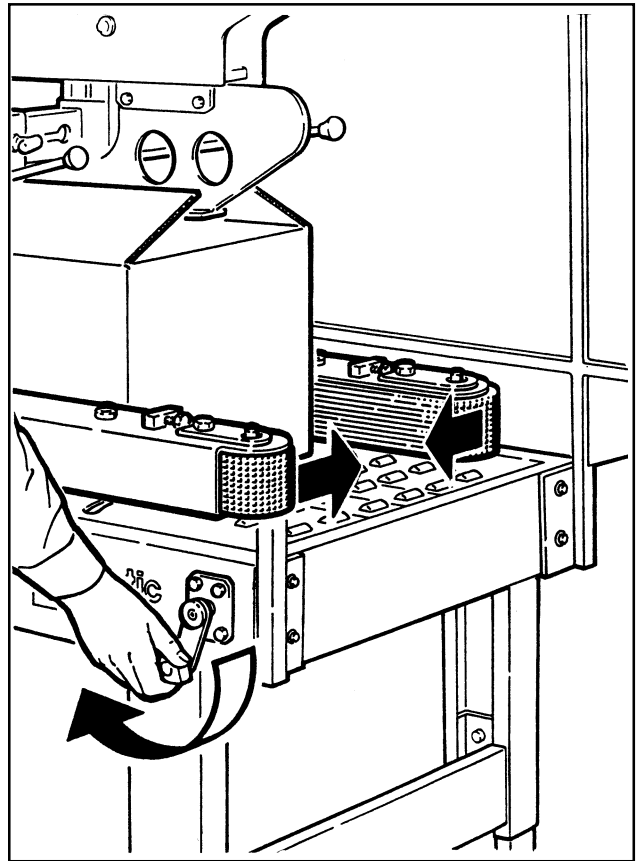

Figure 3-9 – Box Size
5. WIDTH ADJUSTMENT (Figure 3-9)